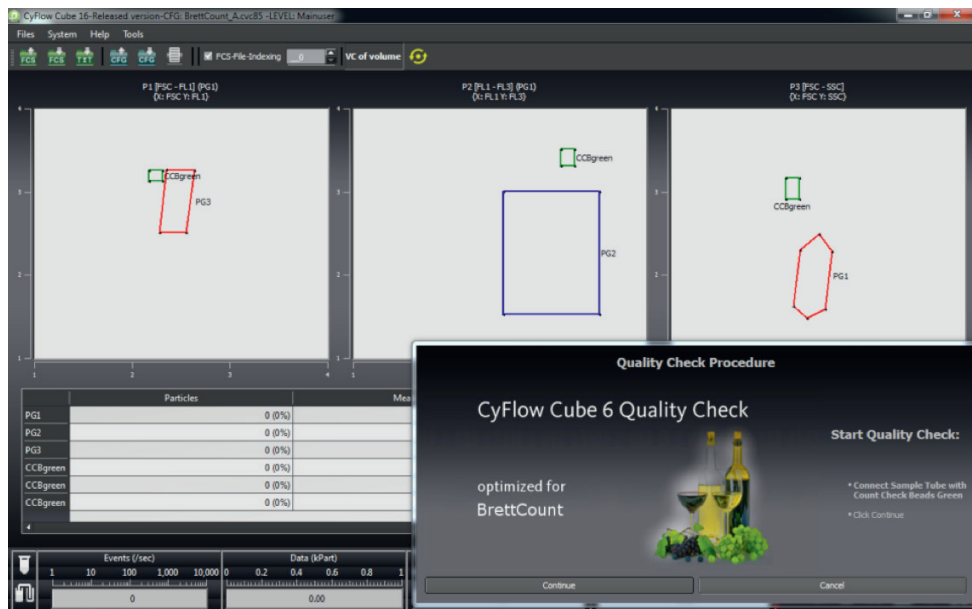

Figure 4: Quality Control procedure of Configuration script "BrettCount_A.cvc85"
4. Follow the instructions shown (**Figure 4**, page 15). You will be guided through the QC procedure.